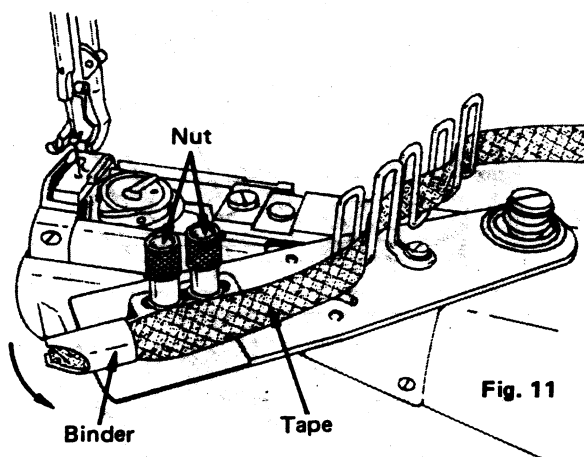

Fig. 11
2. Lead tape as shown by Fig. 11.